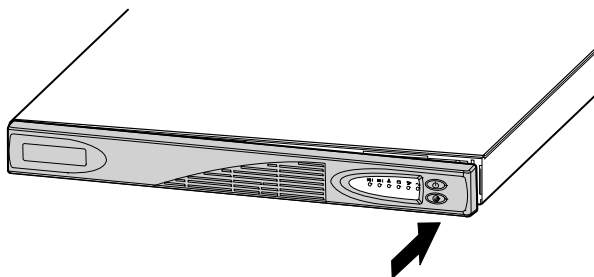

Figure 5. Replacing the UPS Front Cover
5. Replace the UPS front cover (see Figure 5).